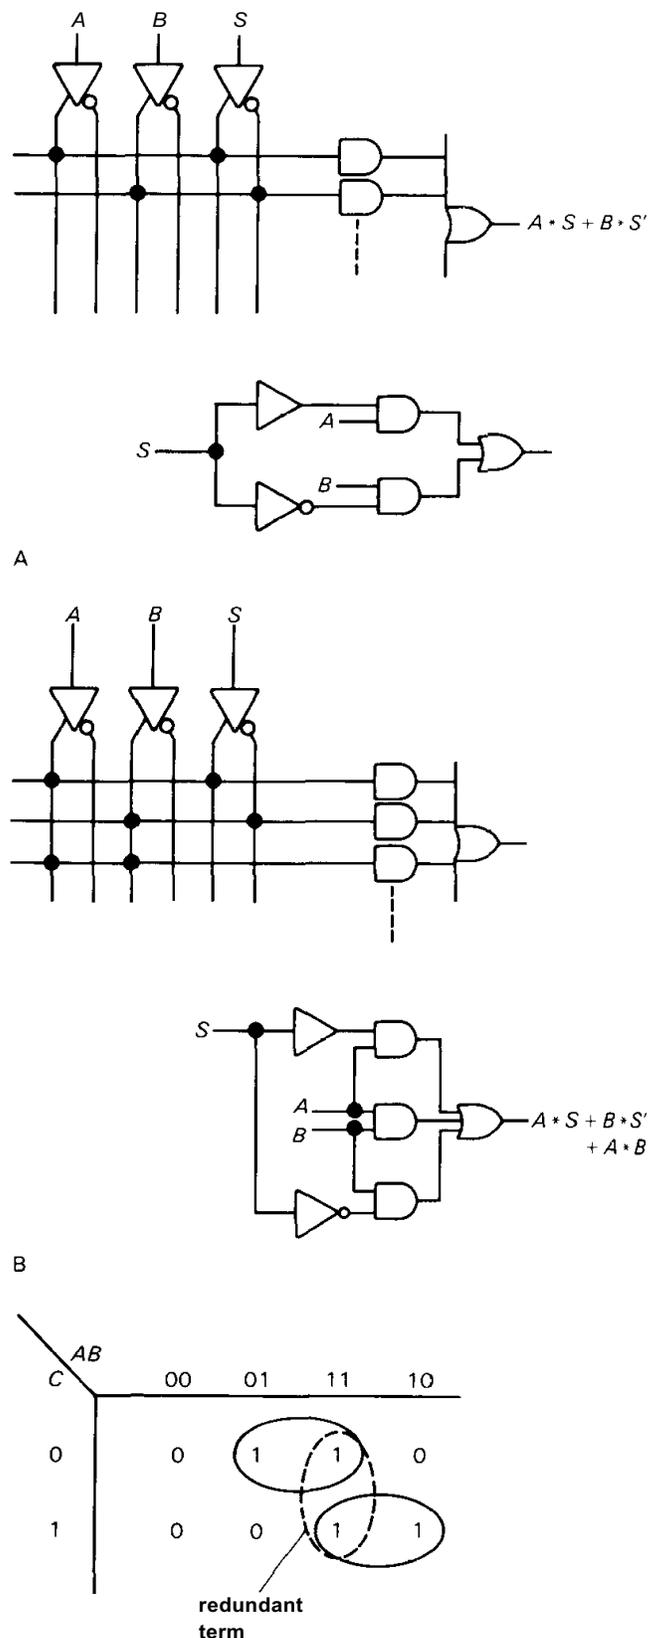

Figure 8.85. PAL glitch elimination.
**Glitches.** Programmable logic devices are wonderful things. But you can occasionally get into trouble if you forget about the possibility of logic races. Figure 8.85 shows a 2-input multiplexer implemented in the obvious way; both the PAL diagram and the equivalent circuit are shown. It looks fine, the logic is fine, but the circuit has a flaw: If both data inputs (**A** and **B**) are HIGH, and the SELECT line changes state, the output may produce a glitch, as shown. That is because the internal gate delays in  $S$  and  $S'$  can be unequal, causing a transient state in which both AND gates have one LOW input. The solution in this case (Fig. 8.85B) is to add a redundant term,  $A * B$ , which you can easily prove to yourself will guarantee no output glitches.